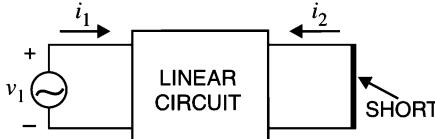

Fig. 24.2
- (i) If we short-circuit the output terminals (See Fig. 24.2), we can say that output voltage  $v_2 = 0$ . Putting  $v_2 = 0$  in equations (i) and (ii), we get,